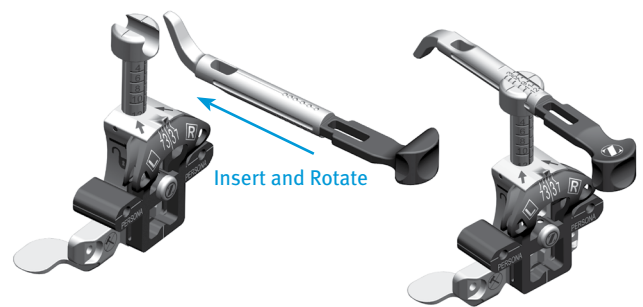
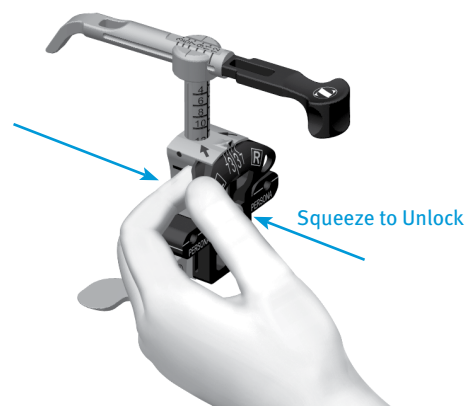

Fig. 20
Fig. 21
- Assemble the Posterior Referencing Sizer Boom with the Posterior Referencing Sizer (Fig. 20). Establish the initial external rotation setting by holding the body (silver portion) of the sizer in one hand, positioning the opposite index finger behind the “L” or “R” with the thumb over the “L” or “R”, squeeze, adjust to desired setting and release (Fig. 21). External rotation can be set at 0°, 3°, 5°, 7°, or 9° left or right.